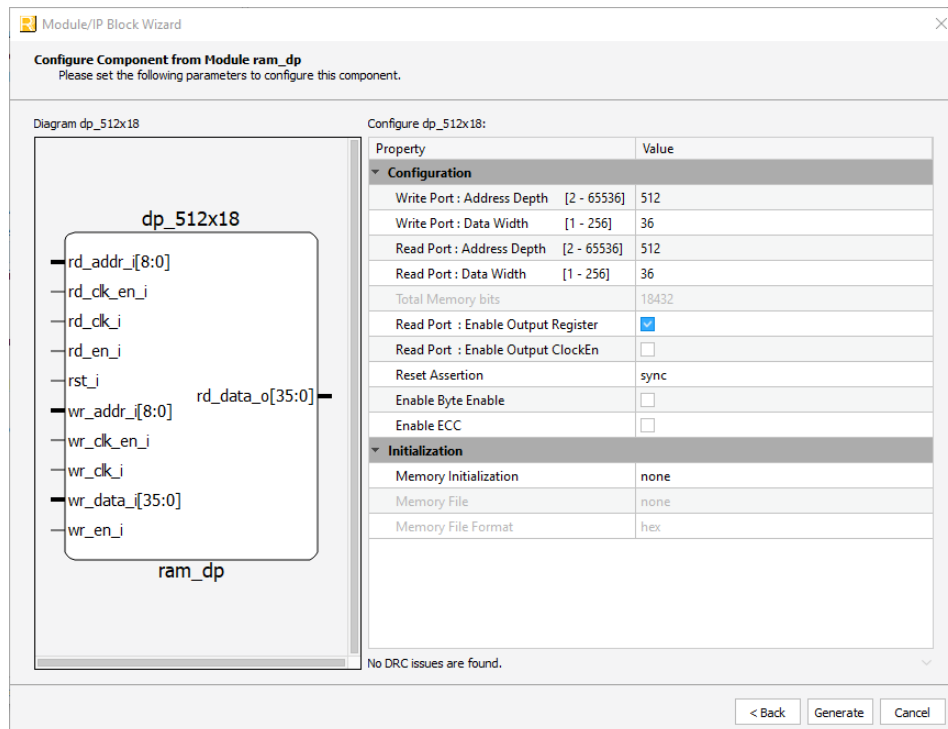

Figure 3.3. Example: Generating Pseudo Dual Port RAM (RAM_DP) Module Customization
8. In the **IP Configuration** page, customize the Dual Port RAM by selecting options as shown in Figure 3.3.